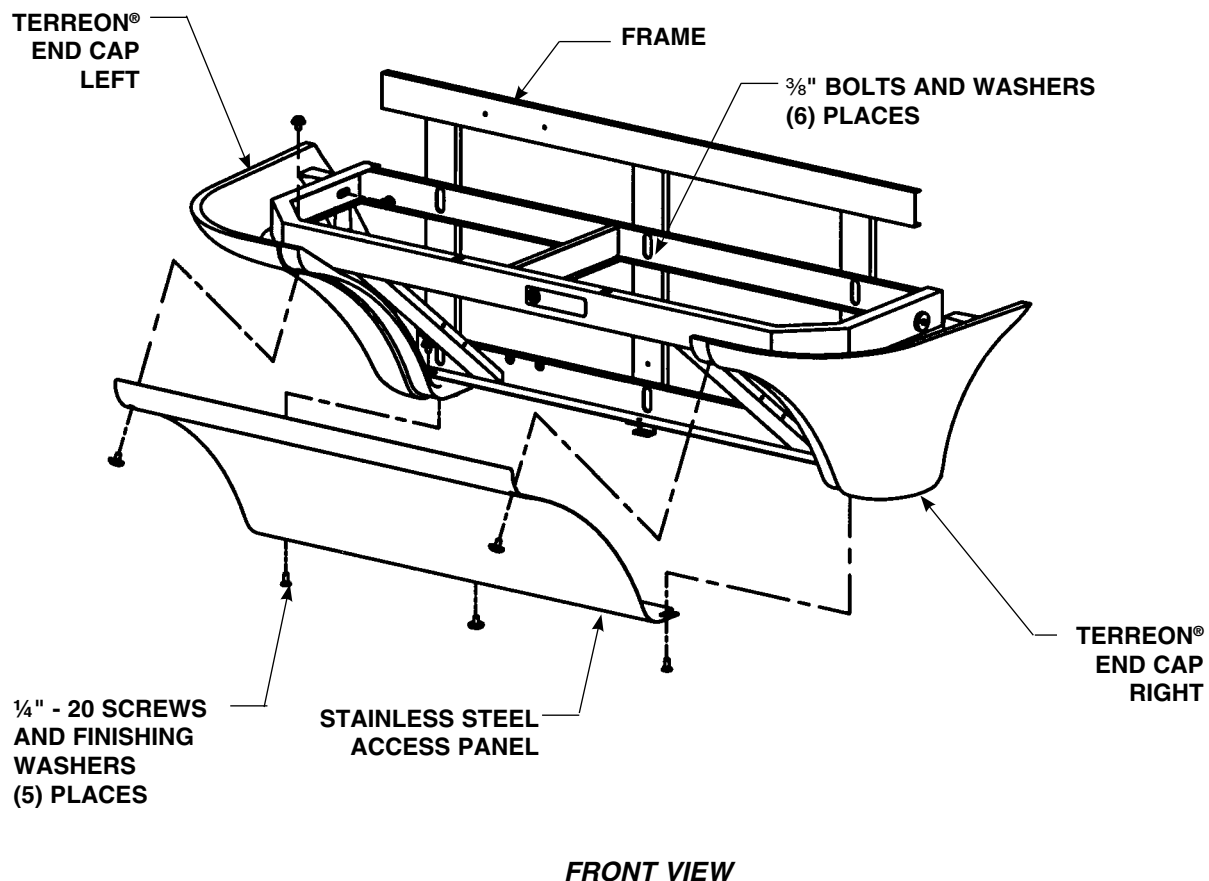
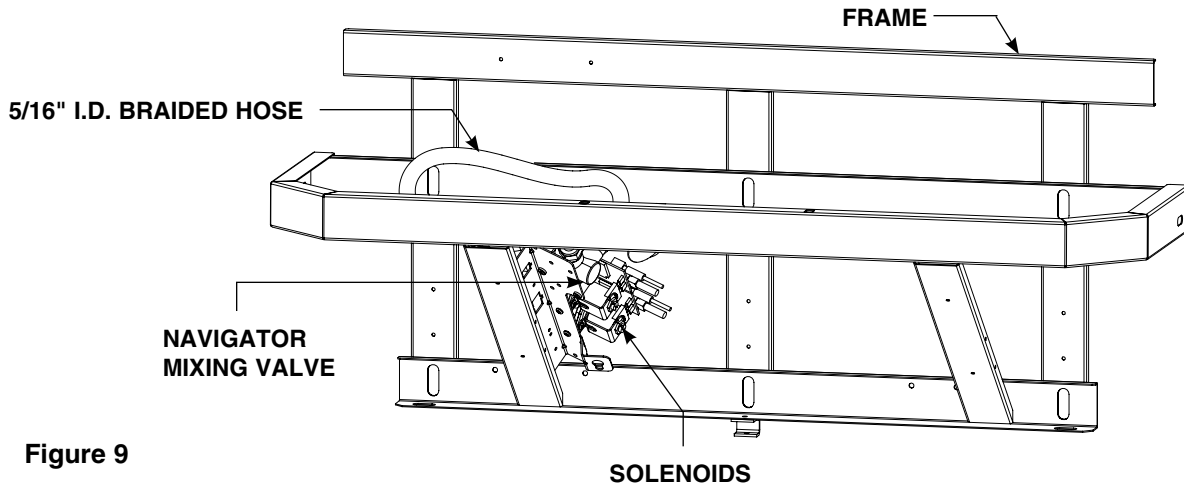

Figure 3
Figure 9
2. Remove the two top access panel screws and washers securing the access panel to the frame and remove the access panel (see Figure 3).
4. After testing is complete, reinstall access panel to frame. Fasten access panel with the five panel screws and washers provided (see Figure 3 on page 8).
Using a 5/32" Allen socket wrench, loosen, but do not remove the bottom three access panel screws. Remove the two top access panel screws and washers securing the panel to the frame and remove the access panel (see Figure 3 on page 8). Solenoids are located on left side of frame (see Figure 9).